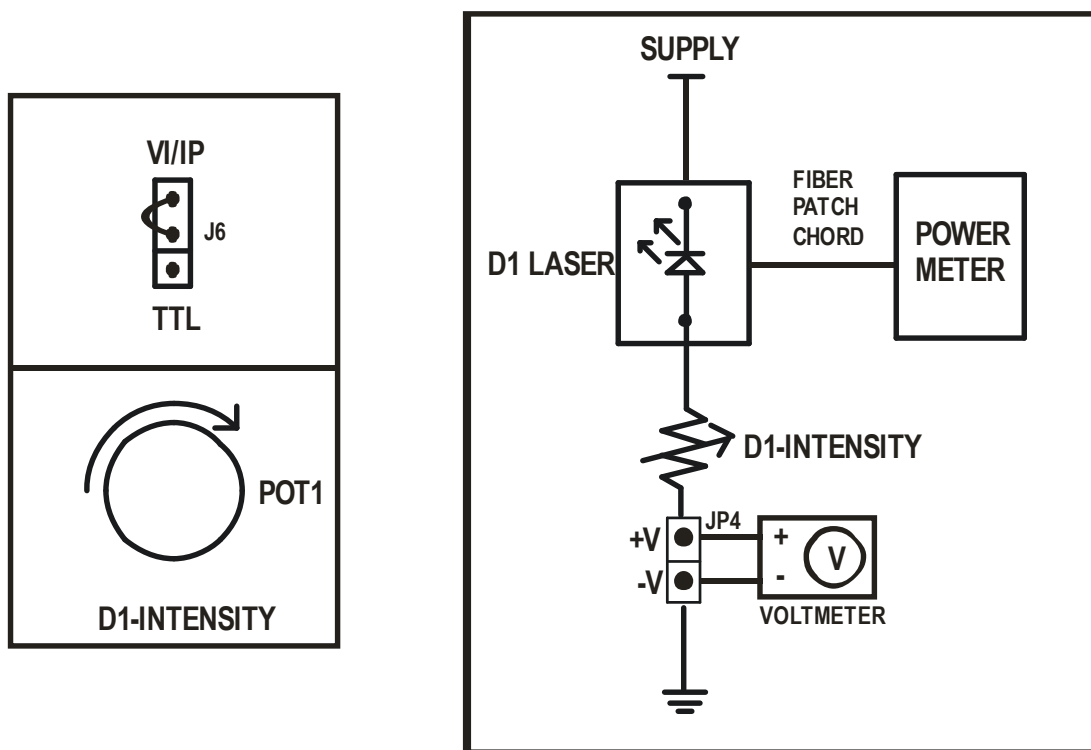

FIG 1C EXPERIMENTAL SETUP FOR I-P CHARACTERISTIC OF LASER DIODE.
- Refer to fig 1C and carry out the connections